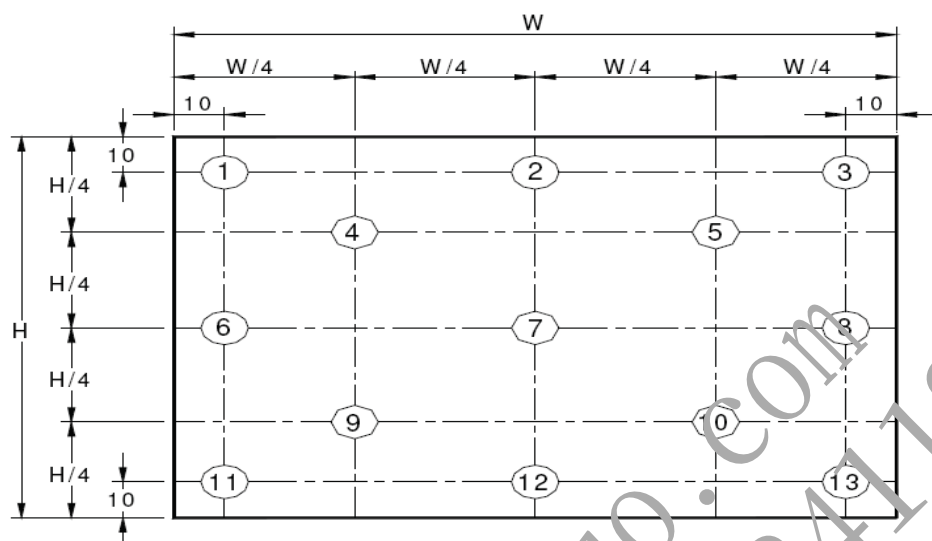

Figure 9. Uniformity Measurement Locations (13 points)
Notes : - Viewing angle is the angle at which the contrast ratio is greater than 10. The viewing angles are determined for the horizontal or 3, 9 o'clock direction and the vertical or 6, 12 o'clock direction with respect to the optical axis which is normal to the LCD surface (see Figure 7). - Contrast measurements shall be made at viewing angle of $\Theta = 0$ and at the center of the LCD surface. Luminance shall be measured with all pixels in the view field set first to white, then to the dark (black) state . (see Figure 7) Luminance Contrast Ratio (CR) is defined mathematically. $CR = \frac{\text{Luminance when displaying a white raster}}{\text{Luminance when displaying a black raster}}$ - Center Luminance of white is defined as luminance values of 5 point average across the LCD surface. Luminance shall be measured with all pixels in the view field set first to white. This measurement shall be taken at the locations shown in Figure 8 for a total of the measurements per display. - The White luminance uniformity on LCD surface is then expressed as : $\Delta Y = \text{Minimum Luminance of 5(or 13) points} / \text{Maximum Luminance of 5(or 13) points.}$(see Figure 8 and Figure 9). - The color chromaticity coordinates specified in Table 5 shall be calculated from the spectral data measured with all pixels first in red, green, blue and white. Measurements shall be made at the center of the panel. - The electro-optical response time measurements shall be made as Figure 10 by switching the “data” input signal ON and OFF. The times needed for the luminance to change from 10% to 90% is T_r, and 90% to 10% is T_r. - Cross-Talk of one area of the LCD surface by another shall be measured by comparing the luminance (YA) of a 25mm diameter area, with all display pixels set to a gray level, to the luminance (YB) of that same area when any adjacent area is driven dark. (See Figure 11).
The White luminance uniformity on LCD surface is then expressed as : $\Delta Y5$ = Minimum Luminance of five points / Maximum Luminance of five points (see Figure 8) , $\Delta Y13$ = Minimum Luminance of 13 points / Maximum Luminance of 13 points (see Figure 9).